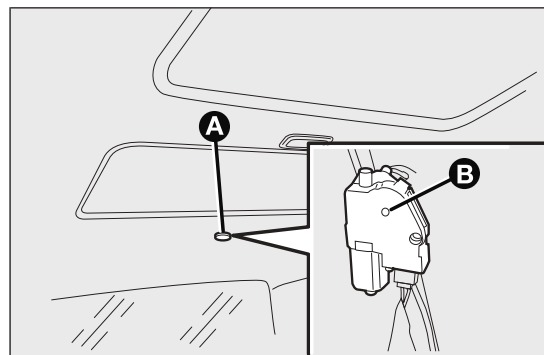

fig. 67
- remove the protective cap A fig. 67 located on the rear of the inner trim;